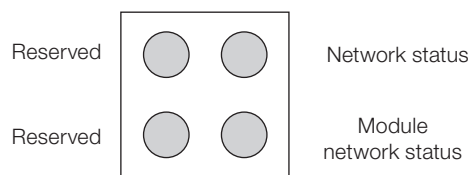

Figure 9.9: LEDs indicating the status of the DeviceNet network
The board also has other four LEDs grouped at the right bottom corner, indicating the Fieldbus network status according to Figure 9.9 on page 9-6 and Table 9.5 on page 9-7 below.
- The company HMS Industrial Networks AB has developed the communication board that comes with the product. Therefore, the network configuration software will not recognize the product as the MVW3000 frequency inverter, but as the "Anybus-S DeviceNet" at the "Communications Adapter" category. The differentiation will be done using the device network address, adjusted according to the Figure 9.9 on page 9-6 and the Table 9.5 on page 9-7.